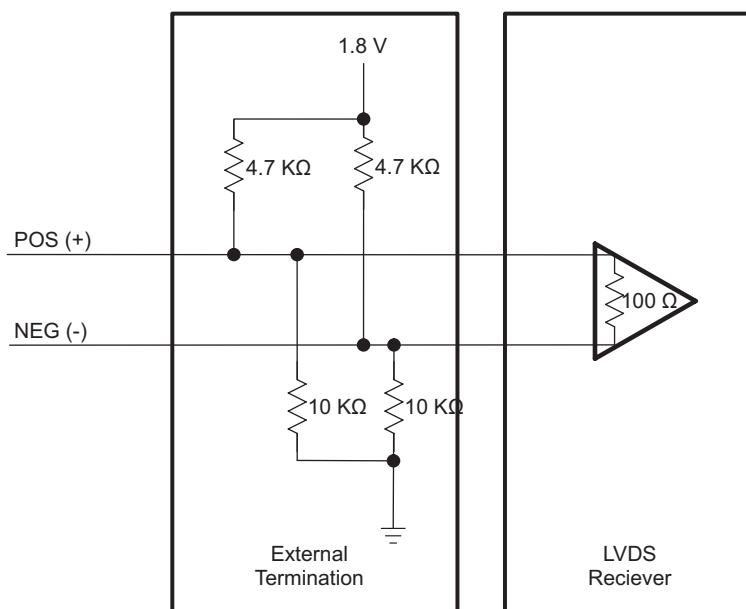

Figure 4. External Terminations: Receiver With 100 Ω
- If the LVDS receiver includes the 100 Ω termination but no biasing, use the external terminations shown in Figure 4.